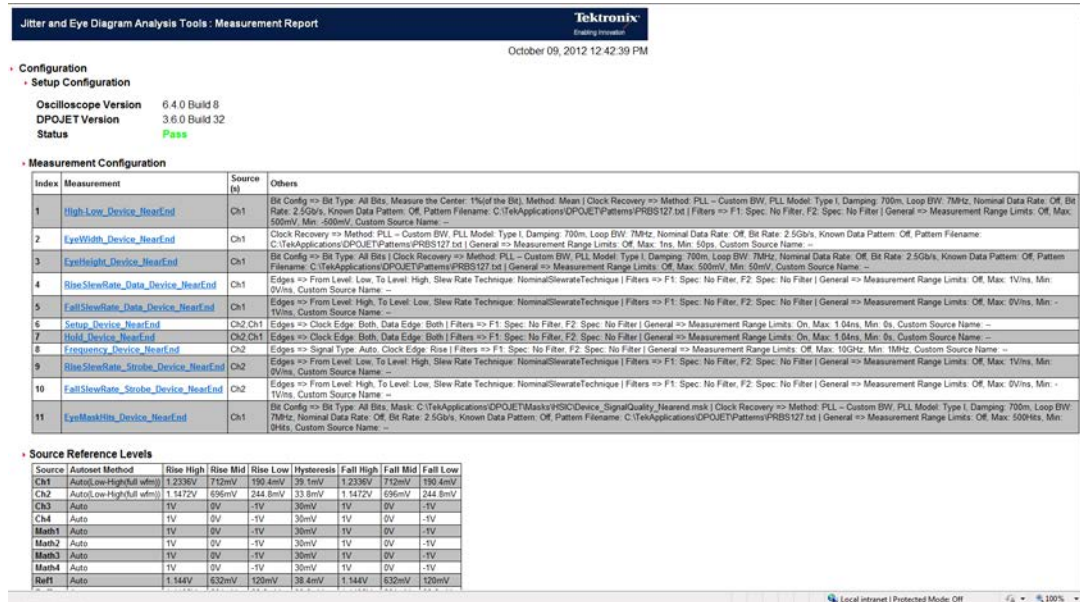

Figure 6 Device Signal Quality Measurement Report
9. The Report is as shown in Figure 6.